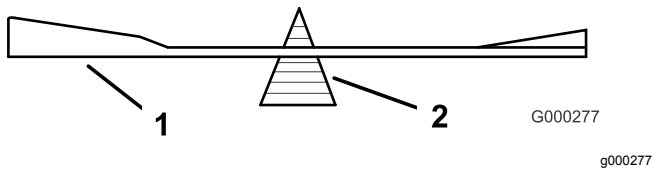

Figure 85
- Check the balance of the blade by putting it on a blade balancer (Figure 85).